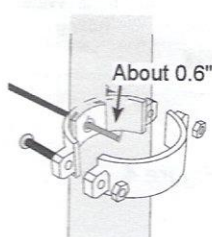

Figure 7
3. Slip the front plate on one end of the tubing (without a mark) and insert the tubing into the drilled hole for about 0.6" (Figure 7).